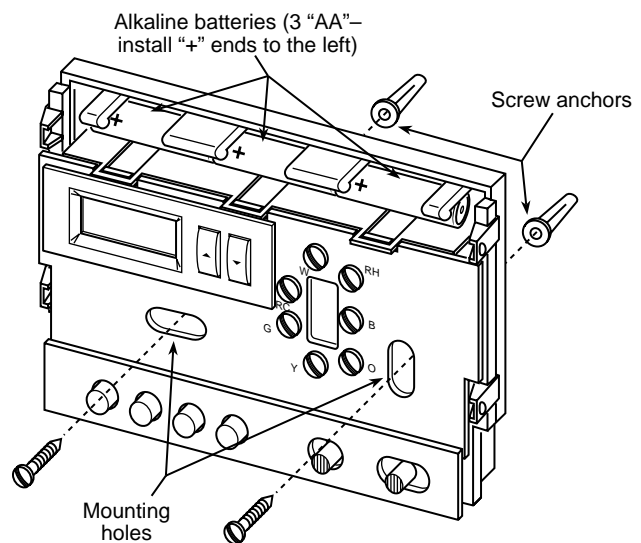

Figure 2. Thermostat base
5. Fasten base loosely to wall, as shown in fig. 2, using two mounting screws. Place a level against bottom of base, adjust until level, and then tighten screws. (Leveling is for appearance only and will not affect thermostat operation.) If you are using existing mounting holes, or if holes drilled are too large and do not allow you to tighten base snugly, use plastic screw anchors to secure subbase.
If the word **BATTERY** is displayed, the batteries are low and should be replaced with fresh "AA" Energizer® alkaline batteries. To replace batteries, install the batteries along the top of the base (see fig. 2). The batteries must be installed with the positive (+) ends to the left.